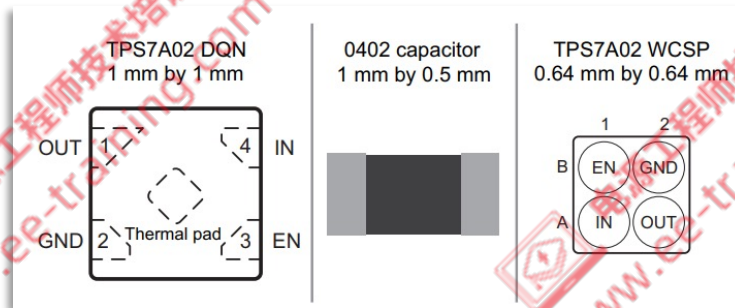

Figure 16. Side-by-side size comparison of TPS7A02 in a DQN package, 0402 capacitor and WCSP package
- Figure 16 demonstrates a side-by-side comparison of the typical 0402 capacitor vs the DQN and WCSP package offered for TPS7A02.